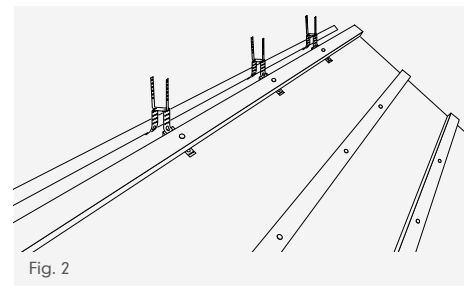

Fig. 2
- 2 Fix the top course tiling battens into position, over the ridge batten brackets, leaving approximately 45mm between the rafter apex and the tiling batten to ensure 75mm of ridge tile overlap (Fig. 2, page 189).